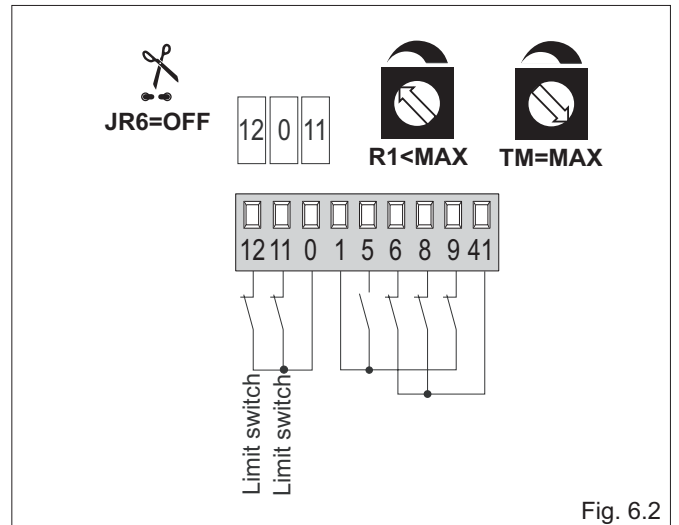

Fig. 6.2
- (Fig. 6.2) connect opening and closing limit switches N.C. contacts to terminals 0-11-12.